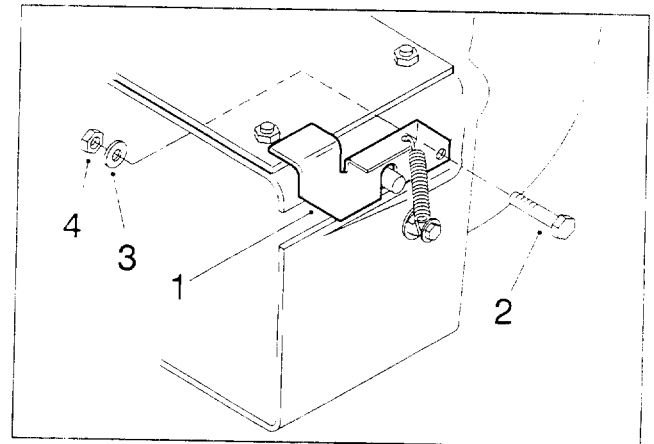

Figure 5
6. To install the latch, hook the end of the spring in the small hole in the latch. Slide the 1/4" x 3/4" hex-head bolt through the latch and the hole in the blower housing. Secure in place with a 1/4" washer and 1/4" nylon lock nut (Fig. 5) **but make sure the latch pivots freely.**